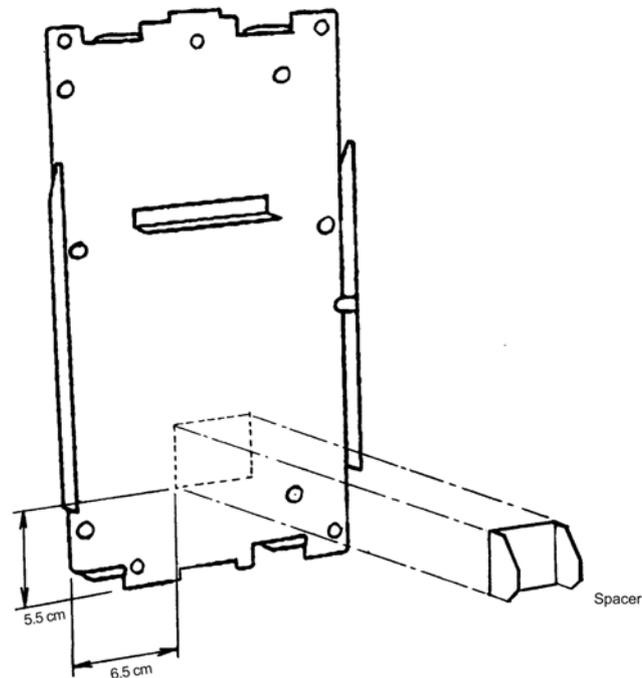
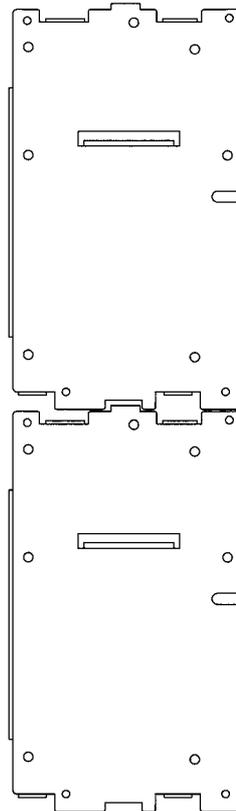

Figure 4-13 Attaching the Wall Mount Bracket Spacer
Figure 4-16 Attaching the Expansion Wall Mount Bracket to the Basic Wall Mount Bracket
1. Position the bottom of the Expansion Wall Mount Bracket on to the top of the Basic Wall Mount Bracket and fasten with four (locally provided) screws. Refer to Figure 4-13 Attaching the Wall Mount Bracket and *Figure 4-16 Attaching the Expansion Wall Mount Bracket to the Basic Wall Mount Bracket*.